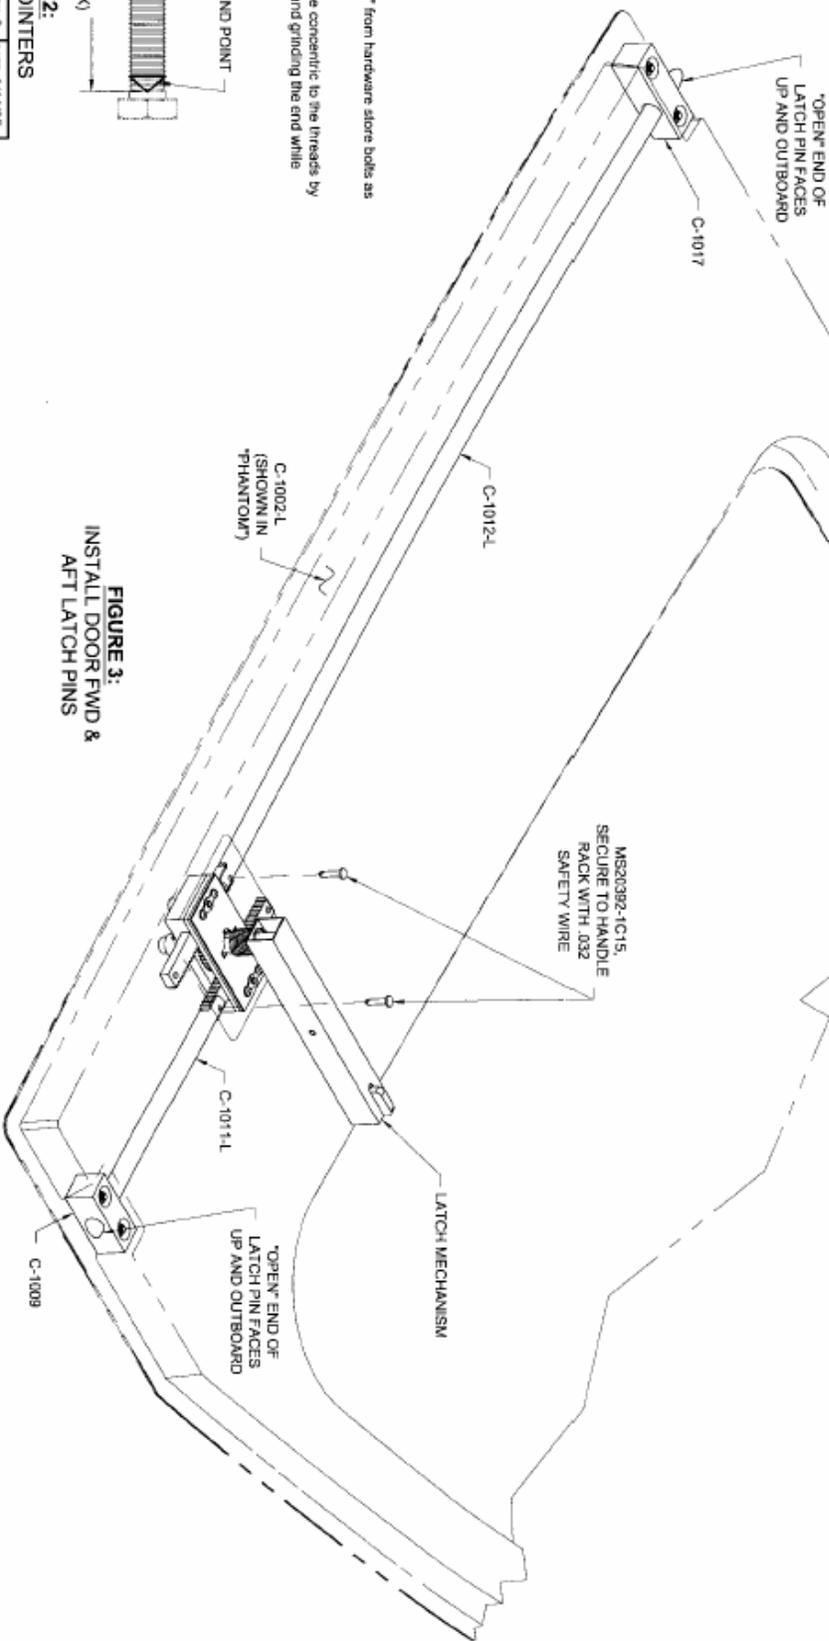

FIGURE 3:
Step 4: Establish proper orientation of the C-1011-L Fwd Latch Pin. See Figure 3.
Insert the fwd latch pin into the door through the door fwd pin block and attach it to the upper handle rack using the hardware shown in Figure 3.